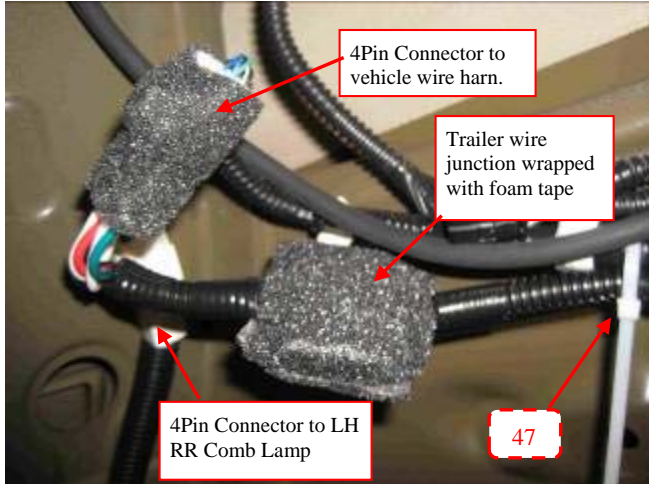

Figure 3-14
- c) Wrap foam pads around the loose 4Pin connection and plastic junction block of the trailer wire harness (Figure 3-14).